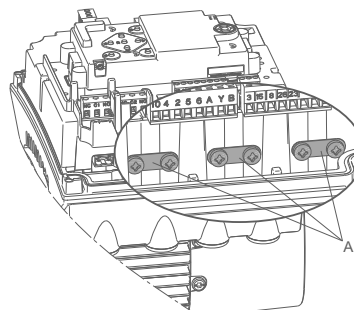

Fig. 18 Connecting the cable screens to ground
7. Connect the cable screens of the bus cables to ground via one of the ground clamps (fig. 18, A).